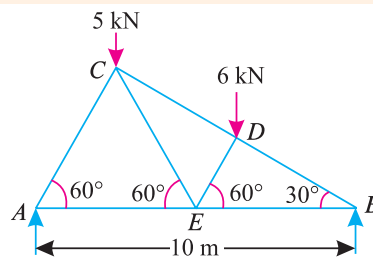

Fig. 14.5.
**Example 14.2.** A truss of span 10 metres is loaded as shown in Fig. 14.5.